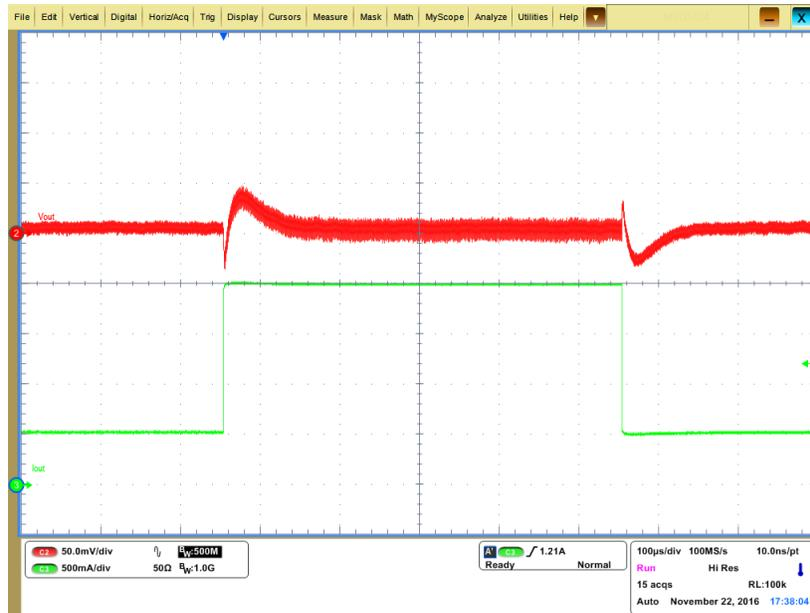

Figure 21. Transient Response Waveform, SMPS5
- Load starts at 500 mA, goes to 2 A, then returns to 500 mA (Figure 21)